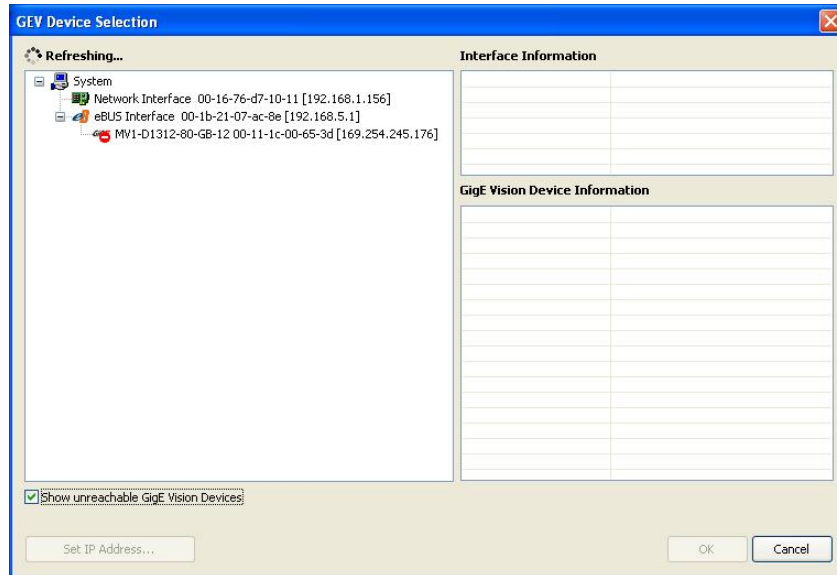

Figure 2.10: GEV Device Selection Procedure displaying the selected camera
- Click on the Select / Connect button in the PF_GEVPlayer . A window with all detected devices appears (see Fig. 2.10). If your camera is not listed then select the box Show unreachable GigE Vision Devices.